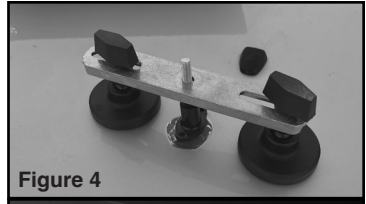
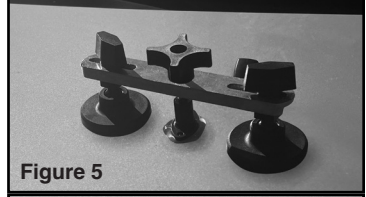
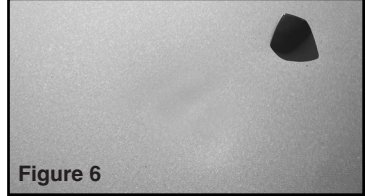

Figure 4
Figure 5
Figure 6
4. Place Cross Bar (5) over Pull Tab, setting Adjusters (6) to desired length. See figure 4. Thread Wing Nut (7) onto the end of the Pull Tab. Continue to twist Wing Nut until the dent is raised. Stop when the dent returns to normal surface level. See figure 5.
5. Unthread the Wing Nut and remove Cross Bar and Pull Tab from the surface. Apply two drops of isopropyl alcohol (not included) to the spot of dried glue. Use the plastic Scraper (8) to peel off the softened glue patch.
6. If a high spot has been created, use a hammer (not included) and lightly tap Dowel (9) against raised spot until desired smoothness is reached. See figure 6.